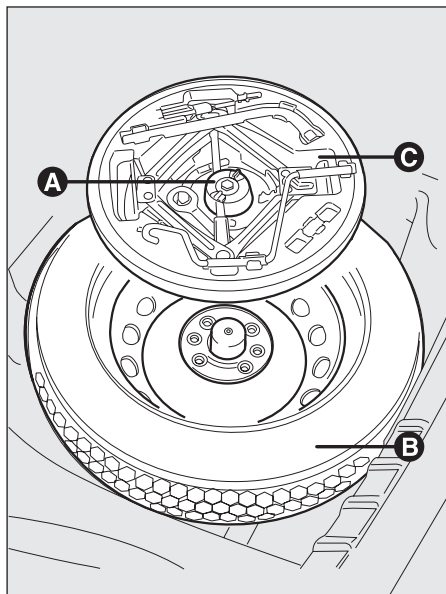

fig. 151
- ☐ unscrew the locking device A-fig. 151;
- ☐ take out the tool container C-fig. 151 and put it alongside the wheel to be changed;
- ☐ take out the spare wheel B-fig. 151;